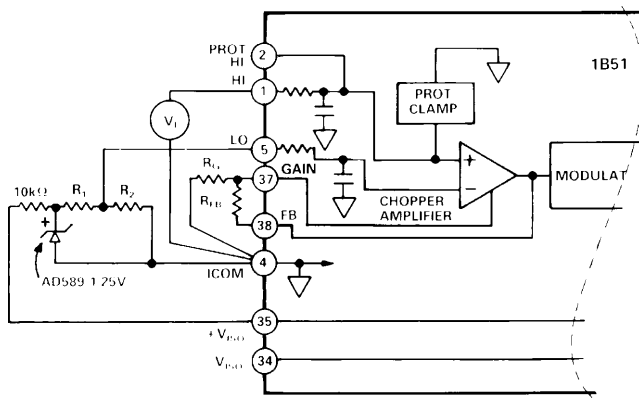

Figure 1. Input Gain Setting and Zero Suppression
The gain of the 1B51 is controlled on the input side by a pair of user provided resistors (see Figure 1). A feedback resistor of between 10 k Ω and 20 k Ω is required between the feedback pin (FB) and the gain pin. The gain setting resistor is connected between the gain pin and input side common (ICOM). The gain equation is
Since the 1B51 is a differential input device, true input referred zero suppression can be accomplished (see Figure 1). A voltage reference powered by the input side power supplies is applied to the LO terminal. Since the transfer function is